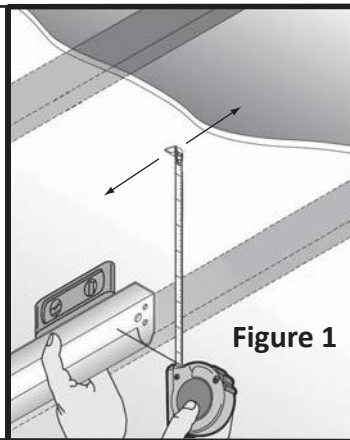

Figure 1
**Step 1:** (Right Side shown) Keeping the horizontal track square, level, and parallel to each other, mark a spot on your ceiling directly above the end of the horizontal track (Fig 1).